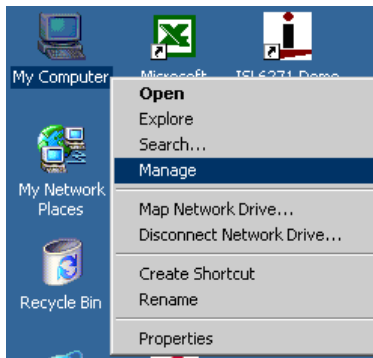

FIGURE 16. SCREEN SHOT OF WHEN RIGHT-CLICKING THE MY COMPUTER ICON ON THE DESKTOP
1. Right click the "My Computer" icon in the desktop and select "Manage," as shown in Figure 16.